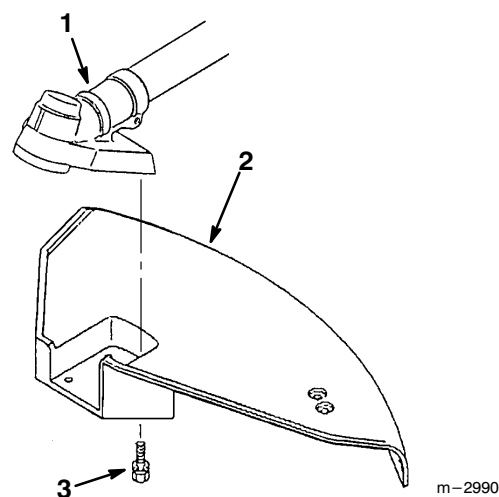

Figure 5
1. Install the blade shield onto the gearcase (Fig. 5).
2. Install and tighten the four M5 x 12 screws (Fig. 5).